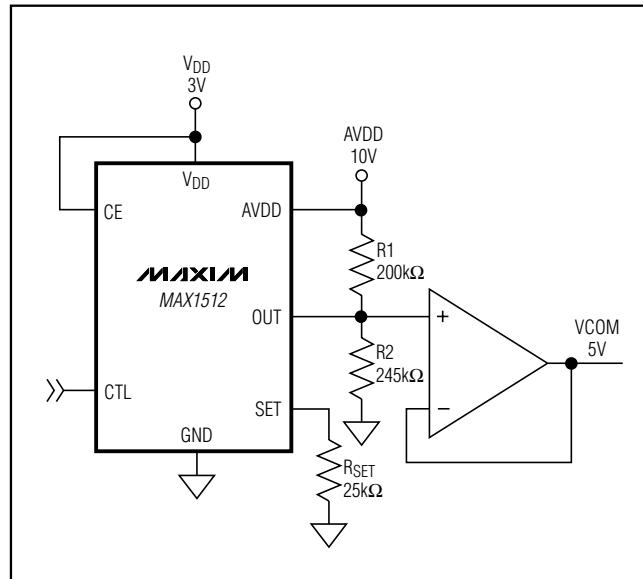
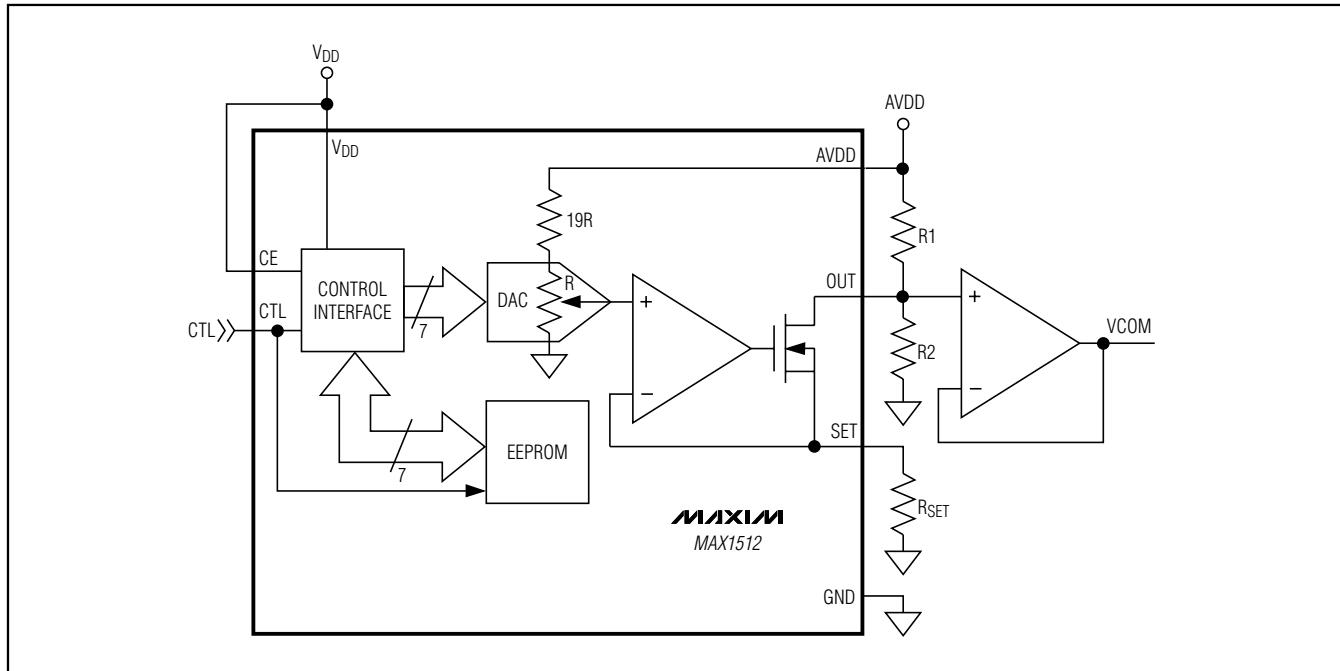

Figure 1. Standard Application Circuit
Figure 2. Simplified Functional Diagram
(Circuit of Figure 1,  $V_{DD} = 3V$ ,  $V_{AVDD} = 10V$ ,  $V_{OUT} = 5V$ ,  $R_{SET} = 30.1k\Omega$ ,  $T_A = 0^{\circ}\text{C}$  to  $+85^{\circ}\text{C}$ , unless otherwise noted. Typical values are at  $T_A = +25^{\circ}\text{C}$ .) (Note 1)
(Circuit of Figure 1,  $V_{DD} = 3V$ ,  $V_{AVDD} = 10V$ ,  $V_{OUT} = 5V$ ,  $R_{SET} = 24.9k\Omega$ ,  $T_A = +25^\circ C$ , DAC half scale, unless otherwise noted.)
The MAX1512 is a solid-state alternative to mechanical potentiometers used for adjusting the LCD backplane voltage (VCOM) in TFT LCD displays. The MAX1512 attaches to an external resistive voltage-divider and sinks a programmable current (IOUT), which sets the VCOM level (Figure 1). An internal 7-bit DAC controls the sink current and allows the user to increase or decrease the VCOM level (Figure 2). The DAC is ratio-metric relative to AVDD and is monotonic over all operating conditions. The user can store the DAC setting in an internal EEPROM. On power-up, the EEPROM presets the DAC to the last stored setting. The single-wire interface between the LCD panel and the programming circuit adjusts the DAC, programs the EEPROM, and provides programming power.
- Place the VCOM buffer and the R1/R2 voltage-divider close to the OUT pin (Figure 1). Keep the VCOM buffer and the R1/R2 voltage-divider close to each other.